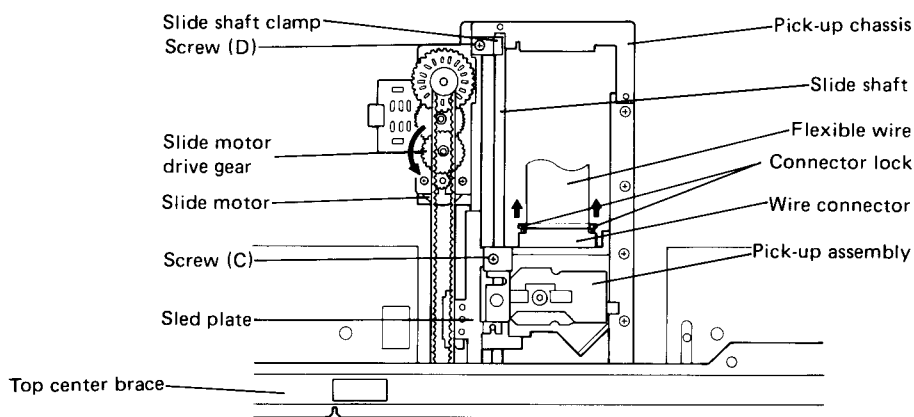

Fig. 14
6. Turn the slide motor drive gear with your finger to move the PICK-UP assembly until you can see it. (Fig. 14)
7. On the pick-up side, unlock the connector of the flexible wire by sliding the lock in the direction of the arrow, and disconnect the flexible wire. (Fig. 14)
9. Remove the screw (C) which retains the sled plate and the screw (D) which retains the slide shaft clamp from the rear side. (Fig. 14)
2. Rotate the slide motor drive gear, and move the pick-up assembly to the rear panel side to permit the insertion of a hexagon wrench. (Fig. 14)